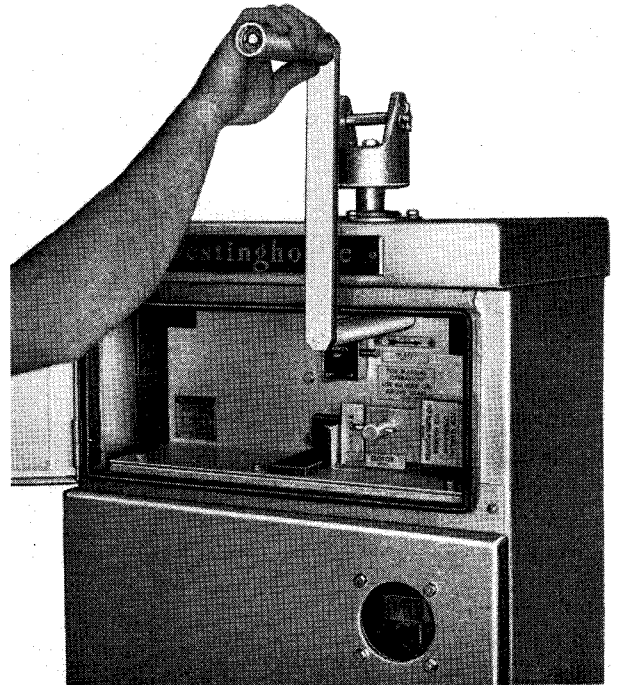

FIG. 6. Manual Operating Handle Shown in position for Manual Operation of Motor Mechanism
5. With the pointer indicating the Manual position, remove the handle from this shaft and place it on the upper shaft, engage pin in the slot and turn handle counterclockwise (direction of arrow under shaft), Fig. 6, until the disconnect switch is completely open and the gear box lever is against its stop. With pencil make position reference lines on the output shaft and mechanism housing while the switch is in this position.
3. With the pointer indicating the **MANUAL** position, remove the handle from this shaft and place it on the upper shaft, engage the pin in the slot (Fig. 6) and turn handle counterclockwise (direc-